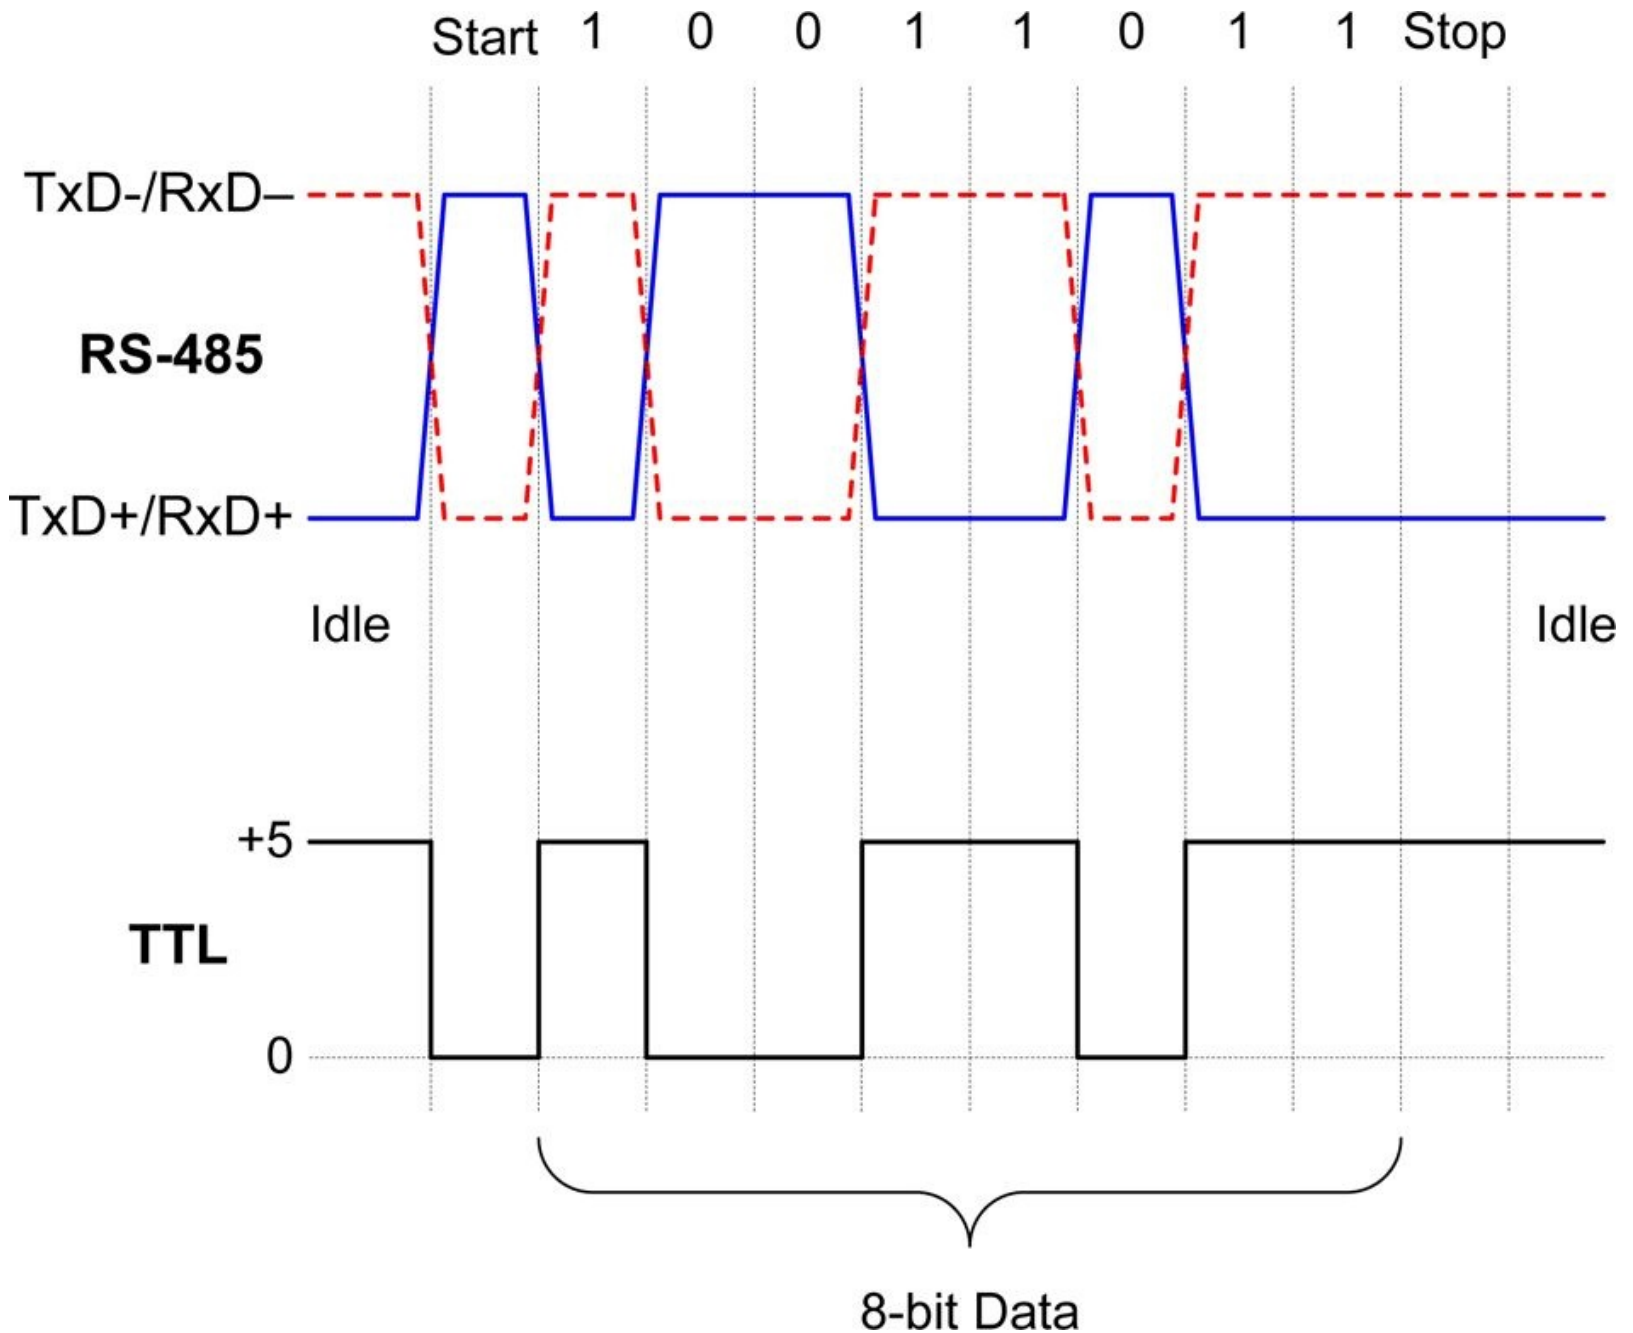

Figure 14-21. RS-485 signals
RS-485 owes its speed and range capabilities to the use of differential signaling. Instead of using a dedicated wire to carry data in a particular direction, two electrically paired wires can transfer data in either direction, but not at the same time. The two wires in a differential interface are always the opposite of each other in polarity. The state of the lines relative to each other indicates a change from a logic value of 1 to a 0, or vice versa. Figure 14-21 shows a typical situation involving asynchronous serial data that incorporates a start bit and a stop bit. For comparison, it also shows the digital TTL input that corresponds to the RS-485 signals.
The $TxD-/RxD-$ and $TxD+/RxD+$ designations in Figure 14-21 indicate that the + and – lines will connect a TxD output to an RxD input. The + and – indicate the logic true polarity of the signal (the – line is true (1) when low, and the + is true (1) when high). In many diagrams of RS-485 circuits, you will often see the lines labeled as just + and –. Note that the + and – signals always return to the initial